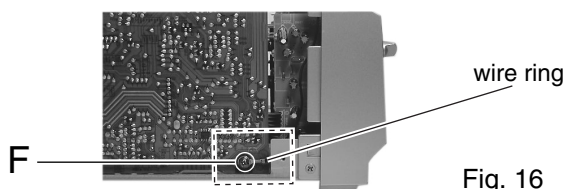

Fig. 16
**Attention:** The wire ring tongue terminals do not touch to any solder points at the main board. (See Fig. 16)